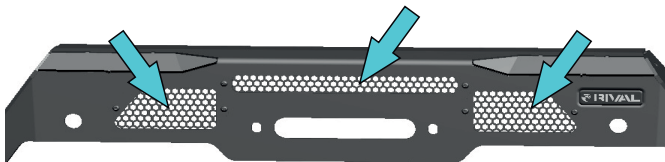

Fig.35
35. It is acceptable to remove pre installed grills shown in fig. 35.